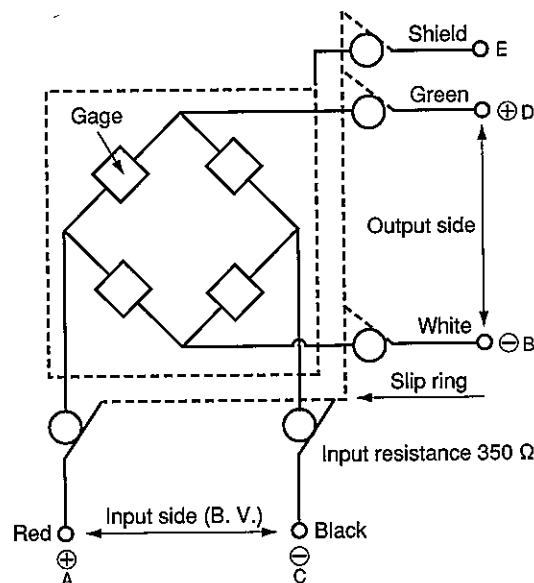

Fig.5
- 7.3 If an amplifier other than KYOWA is used, it is necessary to know accurately the bridge excitation voltage applied by the input side in Fig.5. Then calculate to what $\mu\text{V}/\text{V}$ this output voltage corresponds. The inspection sheet also states the torque value which corresponds to $1\mu\text{V}/\text{V}$. The torque value is then calculated through multiplication.
- 8.2 If zero balancing or readings are found abnormal, check the bridge resistance by referring to Fig.5 and 6. If a discrepancy of several Ω is found between the bridge resistance measured and that described in the inspection sheet, the cause may be failure of the transducer.